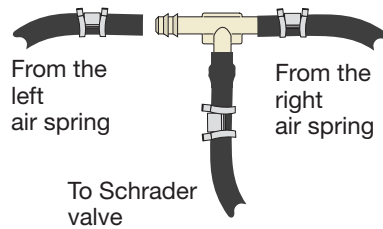
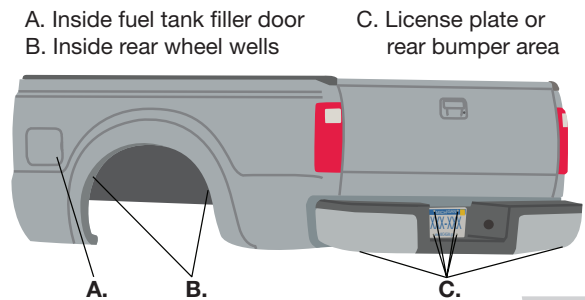

fig. 11
fig. 12
2. Use this procedure (Fig. 11) for all air line connections:
- a. Slide the air line clamp (L) onto the air line (C).
3. Select a location for the Schrader valve (K), ensuring that the valve will be protected and accessible with an air hose (Fig. 12). Determine and cut adequate length of air line (C) to reach from the tee to the Schrader valve or from the air springs to the valve if using a dual-path installation.